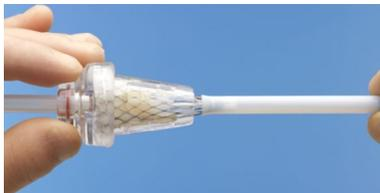

Figure 14
28. Advance the outflow tube over the radiopaque marker band of the capsule prior to advancing the capsule further (Figure 14).